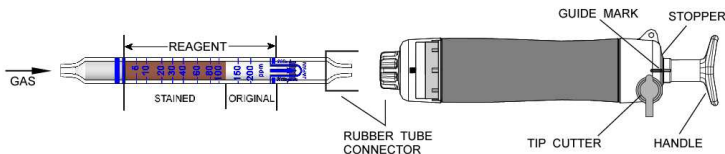

Fig.1
- ① Break both ends of the detector tube.
- ② Insert the detector tube into the aspirating pump securely as shown in Fig.1. (Arrow mark shall point to the pump.)
- ③ Align the guide marks on the shaft and stopper of the aspirating pump.
- ④ Pull the pump handle at a full stroke until it locks and wait for 1.5 minutes or until the completion of sampling is confirmed with the flow indicator of the pump (See descriptions about the flow indicator in the instruction manual of the pump).
- ⑤ Push back the handle without removing the detector tube from the pump so that air in the pump will be discharged perfectly. Then repeat the steps ③~④ once more.
- ⑥ On completion of sampling, read the scale at the maximum point of the stained layer.